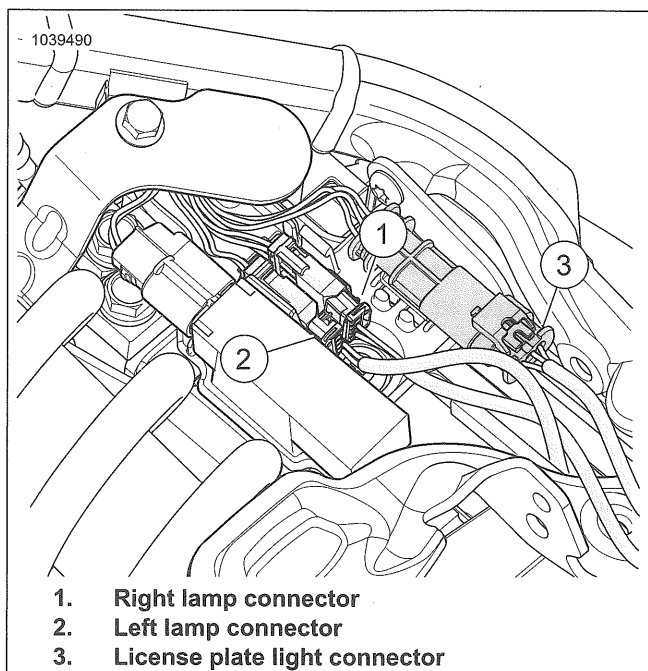
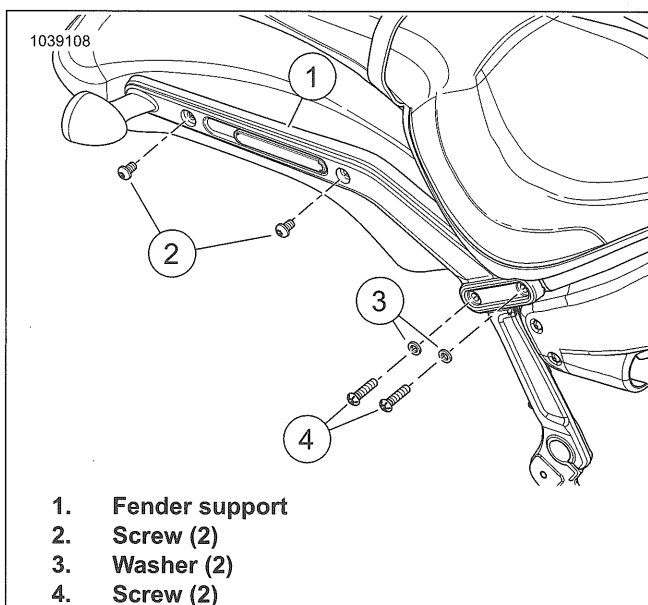

Figure 7-76. Turn Signal Lamp Connectors
Figure 7-77. Right Fender Support
1. See Figure 7-76. Disconnect connector(s).
- a. **Right Signal:** Disconnect connector (1).
2. See Figure 7-77. Remove fender support.
- a. Remove screws (2).
- b. Remove screws (4) and washers (3).
- c. Remove fender support (1).
- a. Route harness (2) through fender support (3).
- b. Install **new** wire retention pads (1).
3. See Figure 7-77. Install fender support.
- a. Install fender support (1), washers (3) and screws (4). Tighten.
4. See Figure 7-76. Connect connector(s).
- a. **Right Signal:** Connect connector (1).